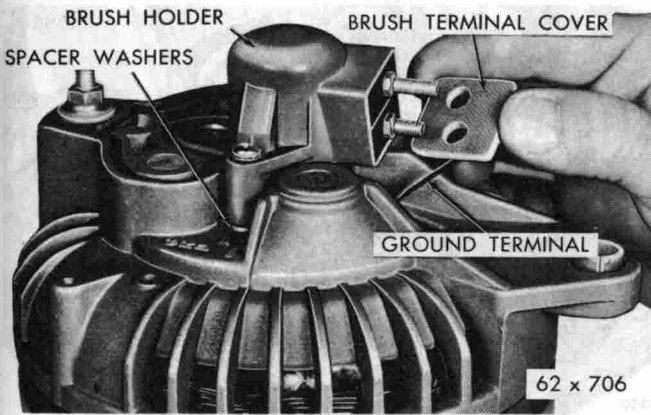
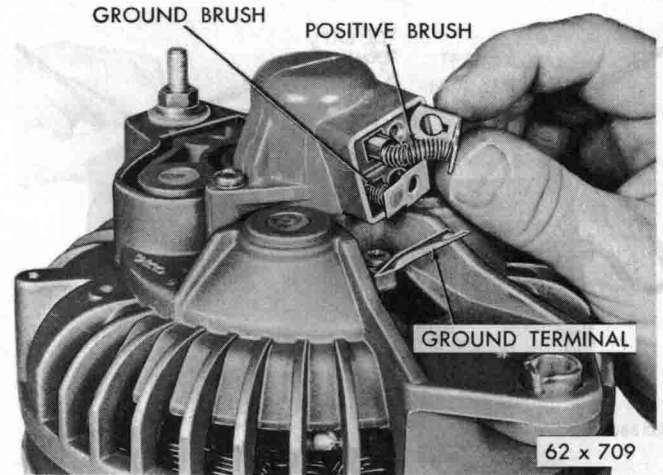

Fig. 29—Removing or Installing Brush Terminal Cover
Fig. 31—Removing or Installing Brushes
(1) Remove the retaining stud nut, lockwasher, brush terminal cover (Fig. 29), sealing washers (Fig. 30), terminal studs and brushes (Fig. 31).